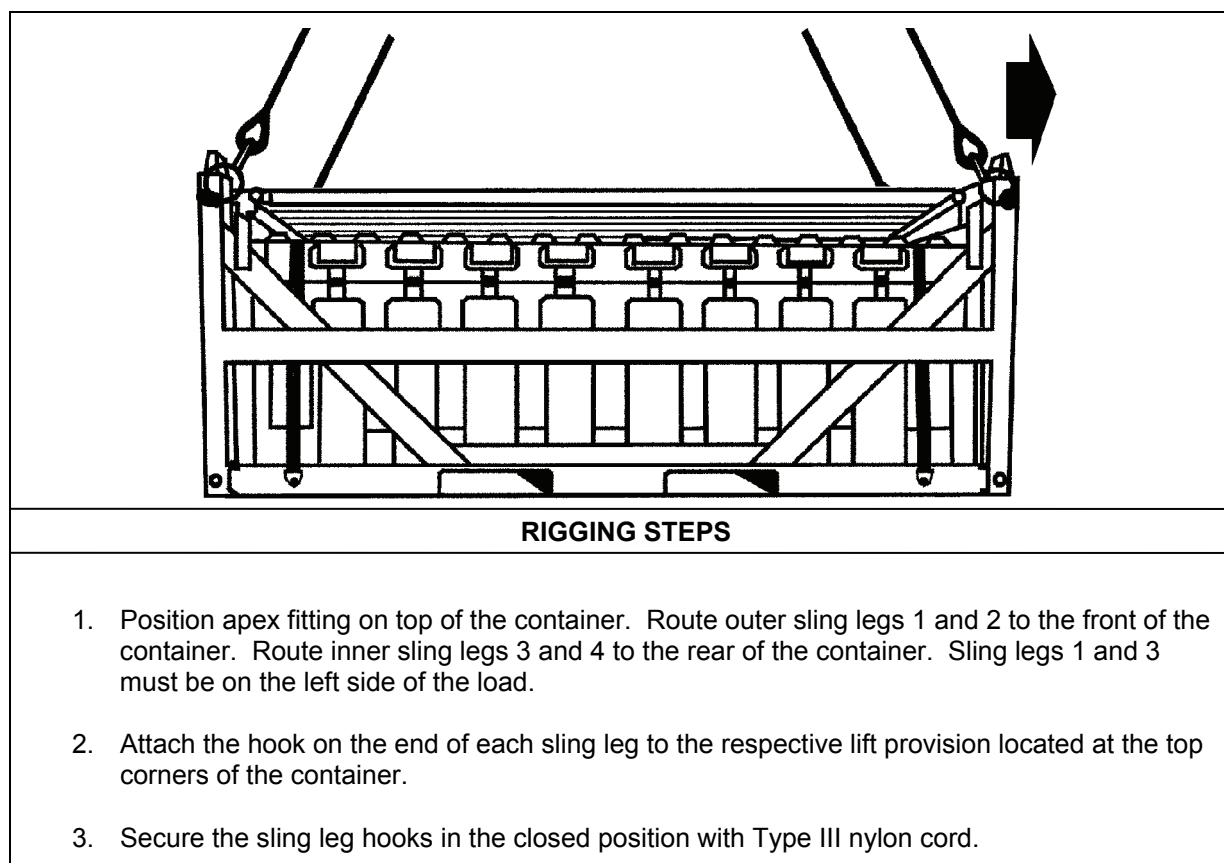

Figure 11-11. Distributed Explosive Technology System, Landing Craft, Air Cushioned, Landing Interface Kit Container, Single
- **Rigging.** Rig the load according to the steps in Figure 11-11.